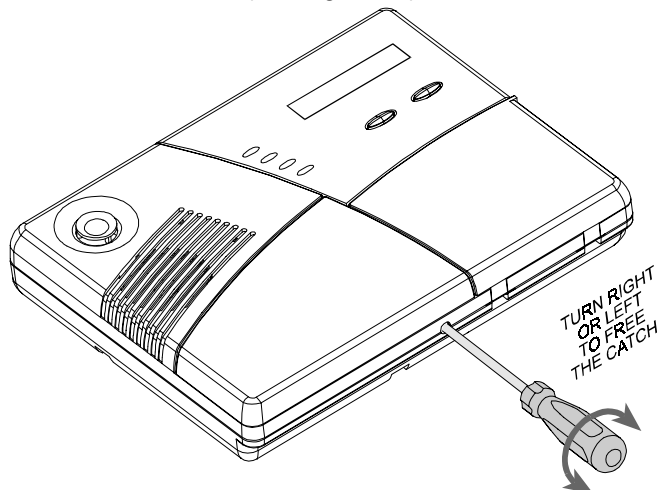

Figure 27. Releasing the Catch
- A. Insert a wide bladed screwdriver into the hole at the bottom of the unit (see Figure 27).